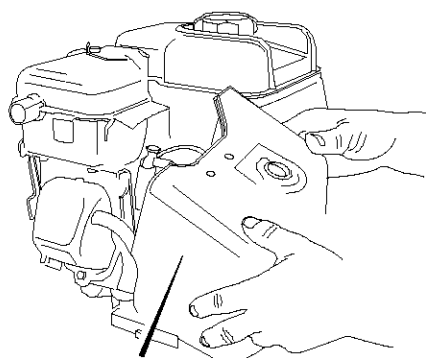

Figure 34
6. Mount the snow hood to the engine and secure with the four mounting screws (see Figure 34).